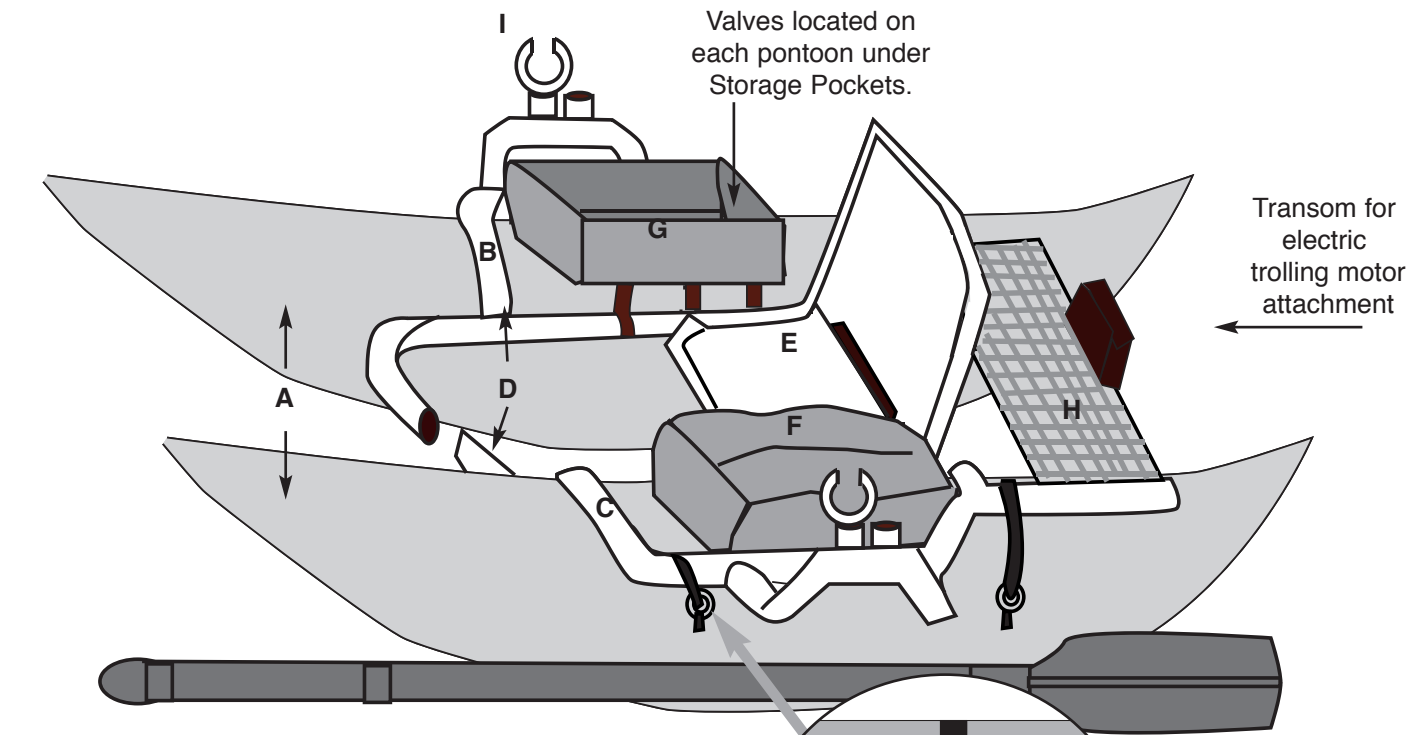

**Figure 4
2. Assemble Seat Support Member to Left and Right Frame Members using (4) Short Snap Pins (see figure 4).
3. Remove Protective Support Bar and assemble Cargo Deck to back of Left and Right Frame Member using (2) Short Snap Pins (see figure 4)
4. Assemble Foot Bars to front of Left and Right Frame Member (see figure 4).
HIN (HULL IDENTIFICATION NUMBER) IS LOCATED ON SQUARE TUBING OF SEAT SUPPORT FRAME MEMBER AND ON RIGHT MAIN FRAME MEMBER (SEE FIGURE 4)